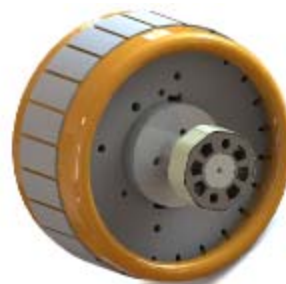

Figure 14.24: Exciter rotor and PMG Rotor
- Assemble the exciter rotor and the PMG rotor with the new bushing, according to Figure 14.24;